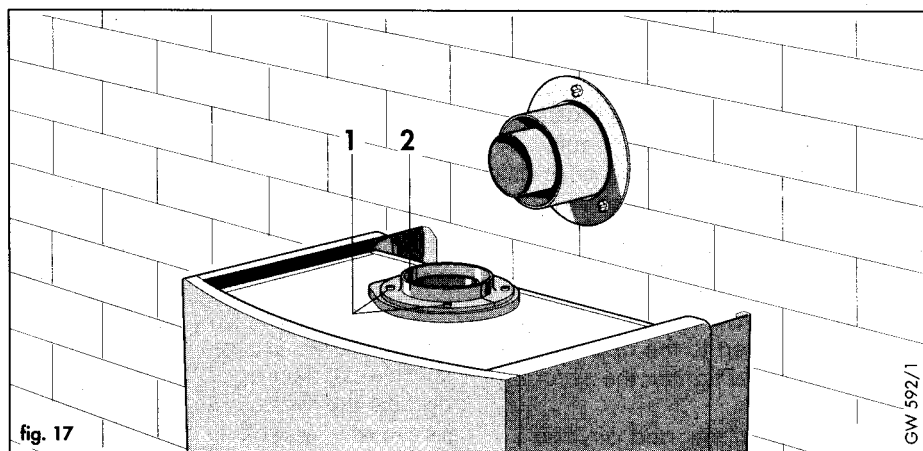
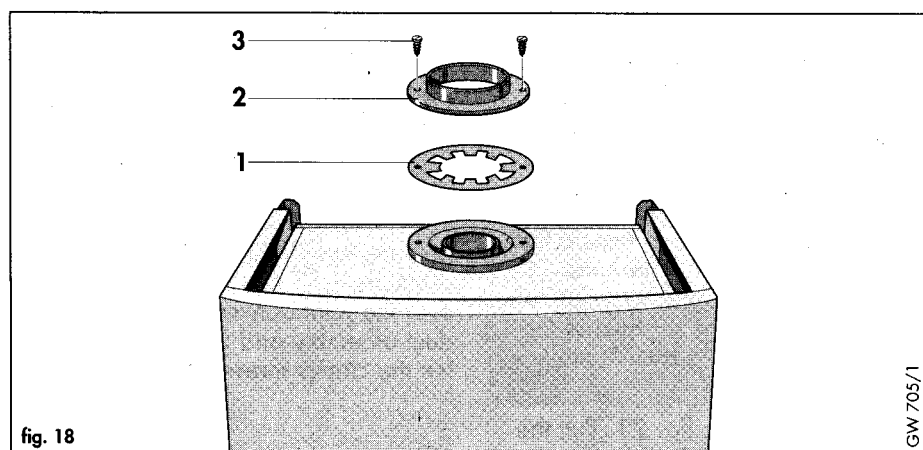

fig. 17
fig. 18
**Note:** A flue restrictor ring, marked **F1** is packed with the users and installation instructions (an additional ring is supplied with a VU 142/1 E, 182/1 E boilers, marked **FII**). The restrictor should be fitted to the flue outlet of the boiler as shown in figure 18, for the flue installations shown in table 4 below:
Remove two screws (1, fig. 17) and take off one half ring (2, fig. 17). If necessary, fit the flue restrictor ring (Note : It will be necessary to remove both half rings if the flue restrictor ring is to be fitted. The flue restrictor ring should be placed on top of flue outlet directly below the two half rings see fig. 18. One half ring should be replaced immediately).
Remove the two half rings (2, fig. 17) and, if necessary, fit the flue restrictor ring.
(Note: It will be necessary to remove both half rings if the flue restrictor ring is to be fitted. The flue restrictor ring should be placed on top of flue outlet directly below the two half rings (see fig. 18). One half ring should be replaced immediately).